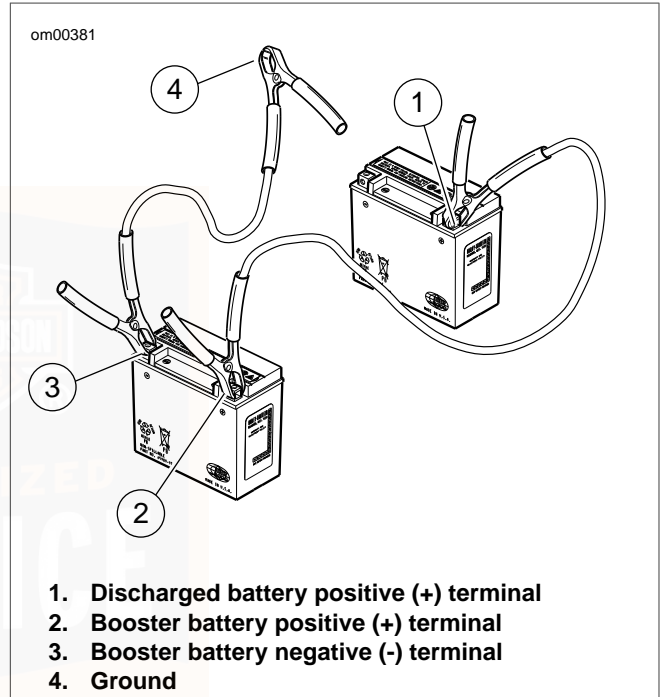

Figure 49. Jump Start Cable Connections
2. See Figure 49. Connect one end of a jumper cable to the DISCHARGED battery positive (+) terminal (1).
3. Connect the other end of the same cable to the BOOSTER battery positive (+) terminal (2).